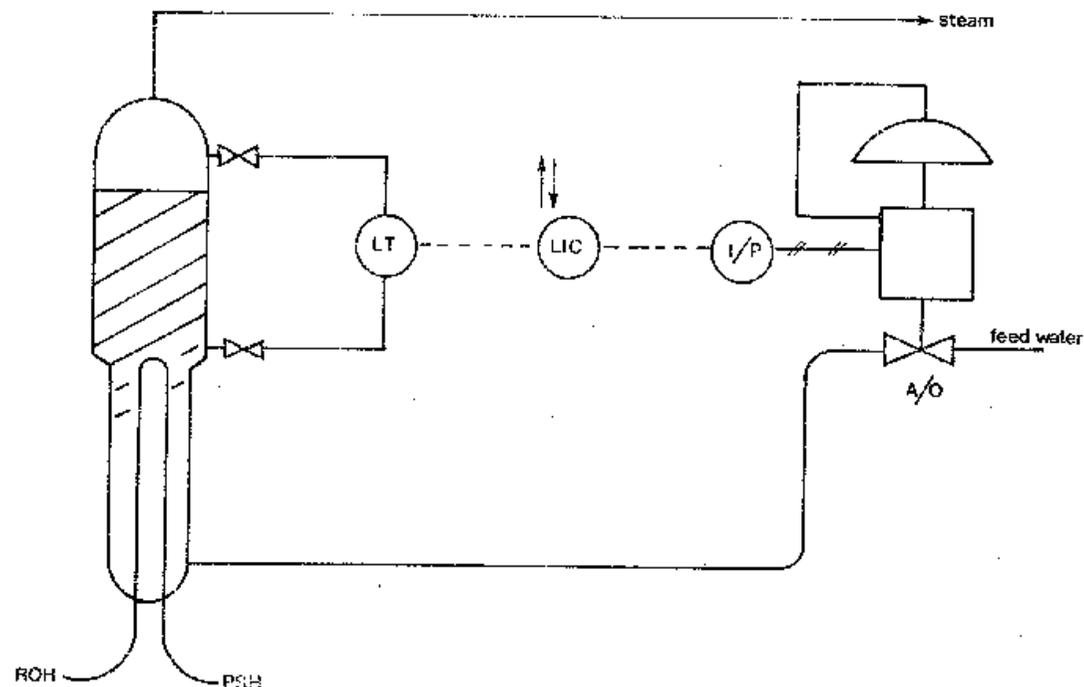

Figure 1: A Single Element (1-e) Feedwater Control System.
- A functional level control system can be designed (as in Figure 1) to regulate the feedwater flow as a function of variations in the drum level.
- Simple Control Room Instrumentation (a level controller) for the single element system of Figure 1 is shown in Figure 1(a).
- Assume that the LIC of Figure 1 and 1(a) is providing adequate level control when the system is subjected to a sudden step increase in steam demand. Swell effect will occur and the level controller will respond to the increase of drum level by driving the feedwater CV more closed. This single element control system has responded to an increase in steam demand with a decrease in feedwater flow - the exact opposite of the required response (what happens to the mass balance?).